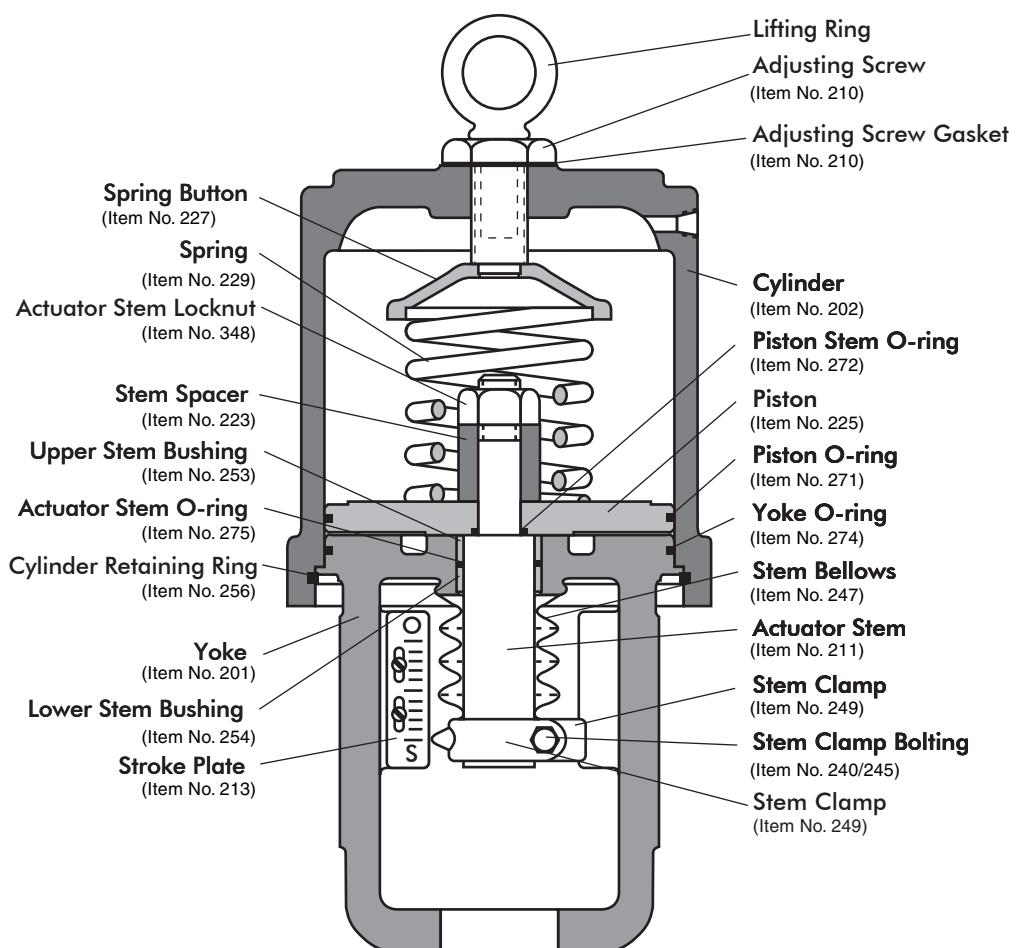

Figure 1 : Air-to-retract Cylinder Actuator
Refer to Figures 1 thru 5 to disassemble the cylinder actuator:
7. In case of air-to-retract configurations, for cleaning and inspection the spring(s) and spring button (see Figures 1, 3 and 5) need removal. The actuator stem locknut needs to be removed and slide the piston and stem spacer off the actuator stem. With heavyduty spring designs, the spring guide also needs removal.
Refer to Figures 1 thru 5 for reassembling the cylinder actuator:
3. In case the stem bushings have been removed, the outside of the replacement bushings should be lubricated. A new lower stem bushing needs to be pressed into the actuator stem bore in the yoke until it bottoms out. The upper stem of the bushing needs to be pressed into the bore until it is flush with the top of the yoke (Presented in Figures 1 or 2).
5. The piston, piston stem O-ring, and stem spacer on the actuator stem need to be reassembled according to the proper air-action (presented in either Figure 1 or 2). Replace the piston O-ring. In air-to-extend configurations, the spring button needs to be stored under the actuator stem locknut. The locknut needs firm tightening.
When changing the air action from air-to-retract to air-to-extend, or vice versa, Figures 1, 2 or 5 need to be referred to: